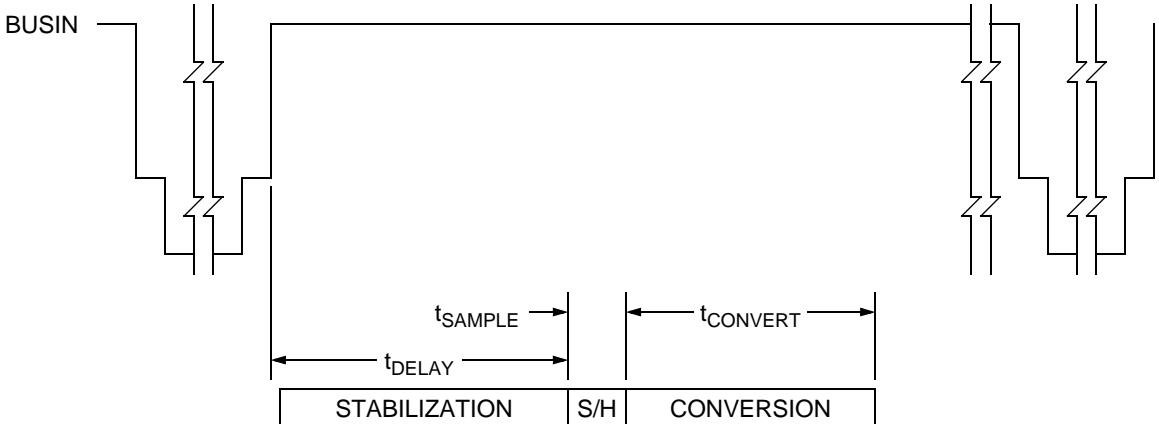

Figure 5-4. A-to-D Conversion Timing
| 121 | Analog to digital converter (see Figure 5-4) | Sample time | t_{SAMPLE} | 4.28 | 4.5 | 4.73 | μs | (8) |